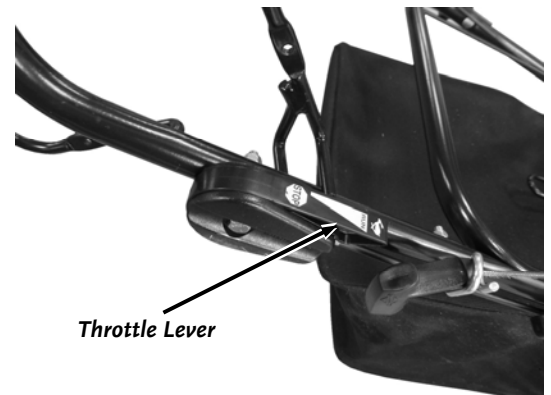

Figure 11
1. Push the Throttle Lever to the “RUN” position (**Figure 11**).
1. Pull the Throttle Lever to the “STOP” position (*Figure 11*).